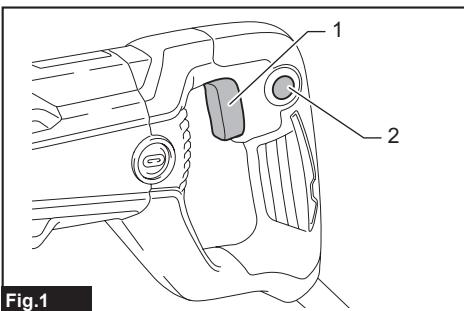

Fig.1
► Fig.1: 1. Switch trigger 2. Lock button (Country specific)